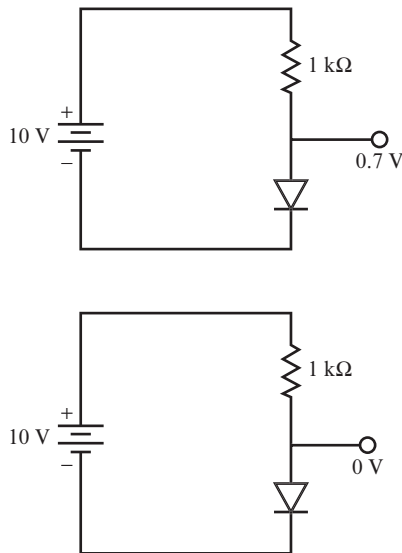

FIGURE 2.18
A. Calculate the current through the silicon diode, as shown in Figure 2.18.
- B.** Calculate the current through the perfect diode, as shown in Figure 2.18.